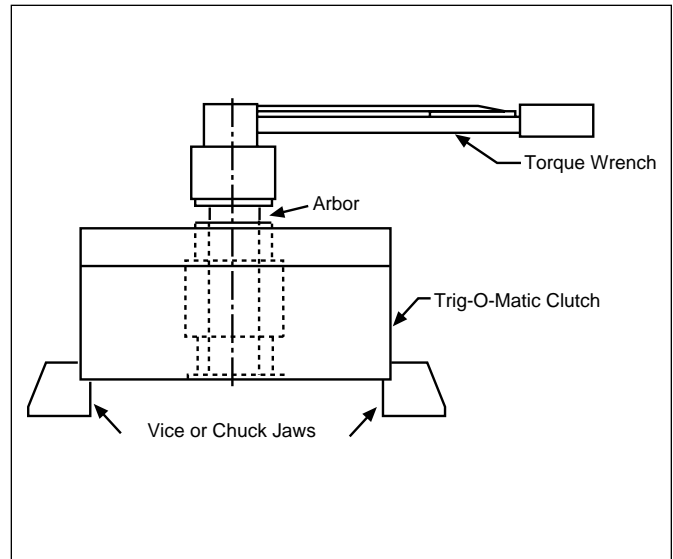

FIGURE 18
2. Insert the appropriate size arbor and key into rotor (see Figure 18).